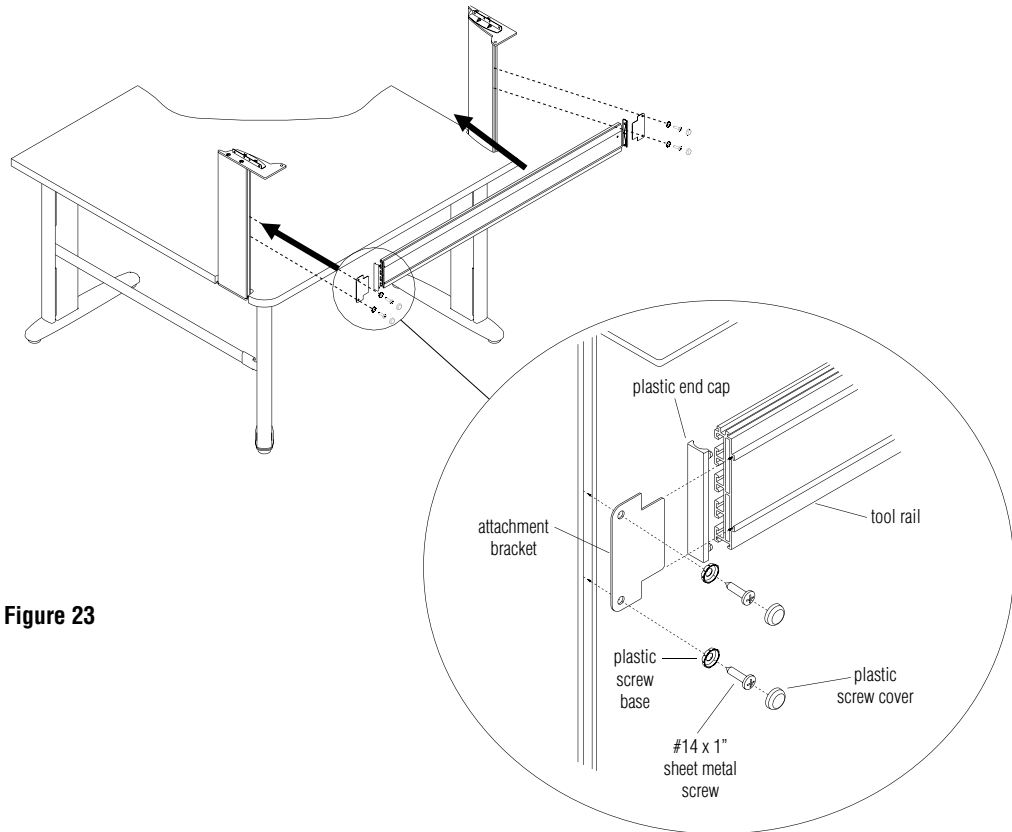

Figure 23
2. Press a plastic end cap and attachment bracket onto left end of the aluminum tool rail (Figure 23).
3. Insert four #14 x 1" sheet metal screws into four white plastic screw bases. Using these four screw assemblies, attach the left end of the tool rail to the location marked on the back of the left stanchion in step 1 (Figure 23).
5. Insert four #14 x 1" sheet metal screws into four white plastic screw bases. Using these four screw assemblies, attach the right end of the tool rail (Figure 23).